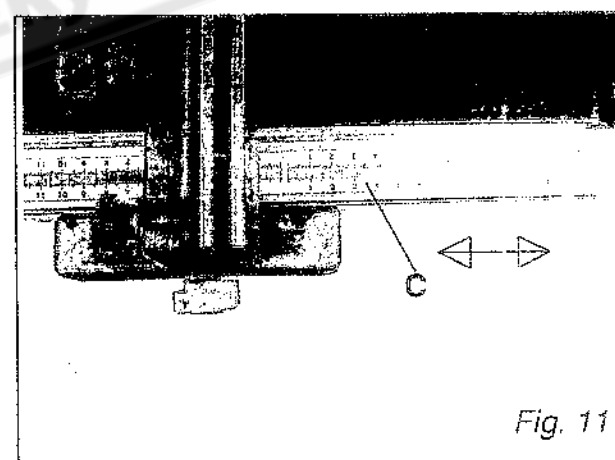

Fig. 11
To adjust the rip fence scale loosen the four winged screws (see *K Fig. 4*) below the table and move the scale and rip fence guide (C) *Fig. 11* sideways to adjust. Re-tighten the winged screws when the adjustment is correct.